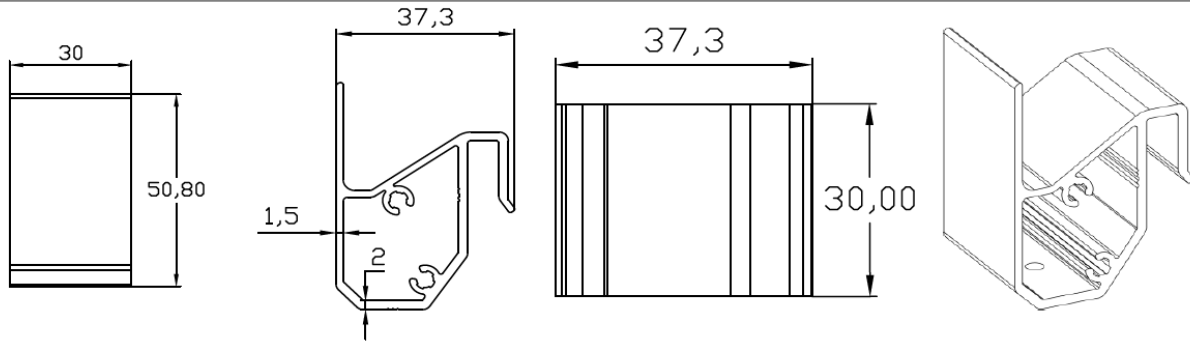

Figure 10
7. **S-BRACKET:** Aluminum S-shape brackets (see Figures 10 and 11). Fixed to external cladding panel bottom edge, on corners and on mid width, by No. 8 x 3/4 in. (Ø4.2mm x 20mm) self-drilling screws.